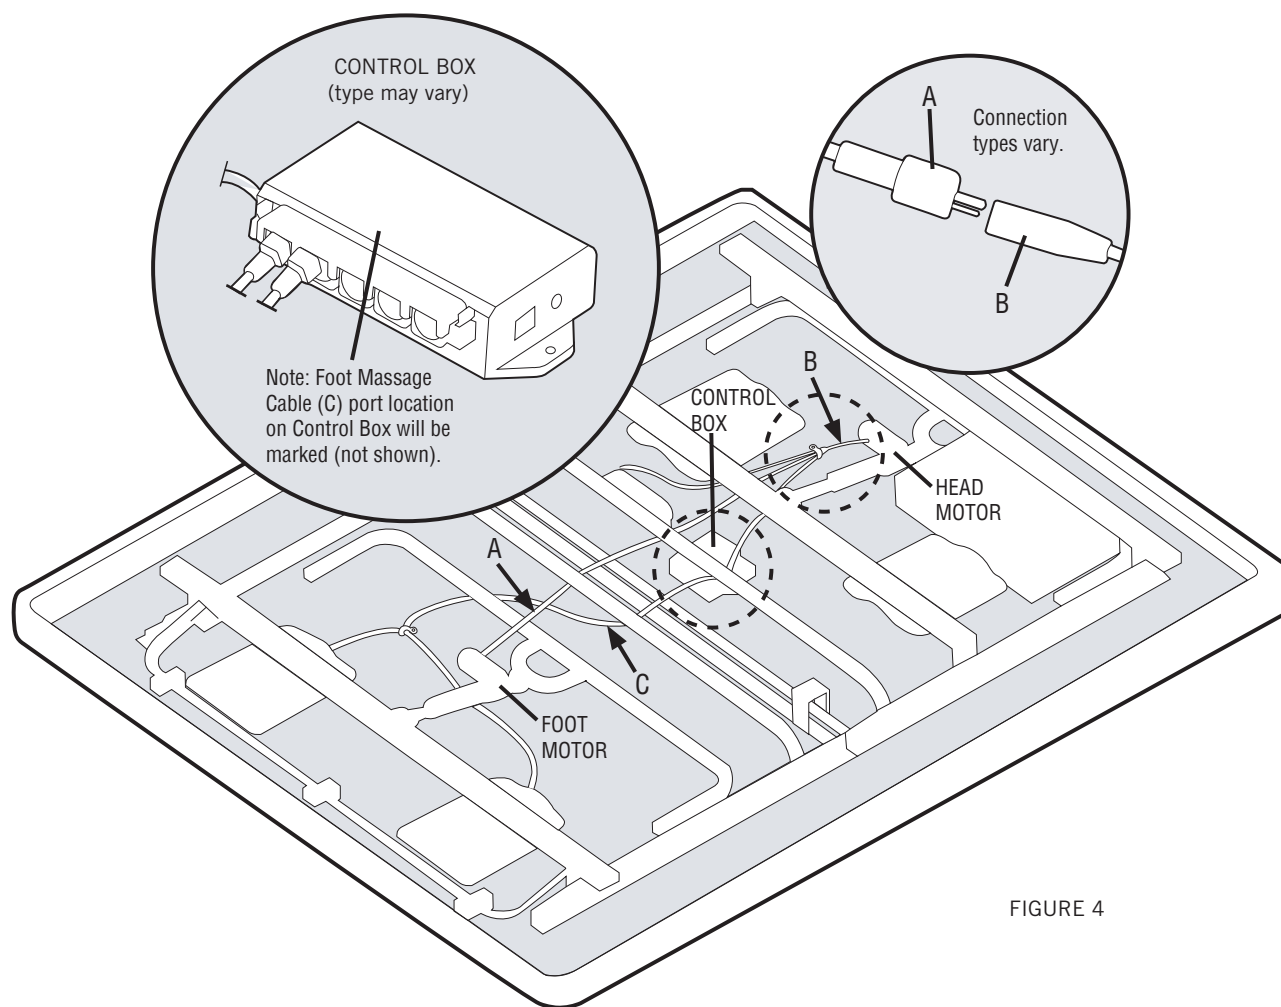

FIGURE 4
Route FOOT MOTOR CABLE (A) underneath base frame and connect to HEAD MOTOR CABLE (B) (FIGURE 4).
OPTIONAL - If massage equipped, route FOOT MESSAGE CABLE (C) underneath base frame and plug into control box (FIGURE 4).